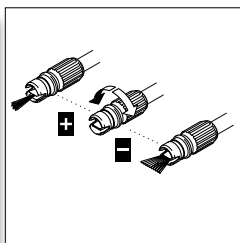

Fig. 6
- When using the adjustable spray lance, the spray pattern and intensity can be controlled according to power of water needed for each task by twisting the spray nozzle at the far end of the lance (Fig. 6). This can be used for sweeping leaves or debris from flat surfaces or curbing. This lance has the widest variety of applications as the fan degree allows for good impact pressure *and* cleaning coverage.